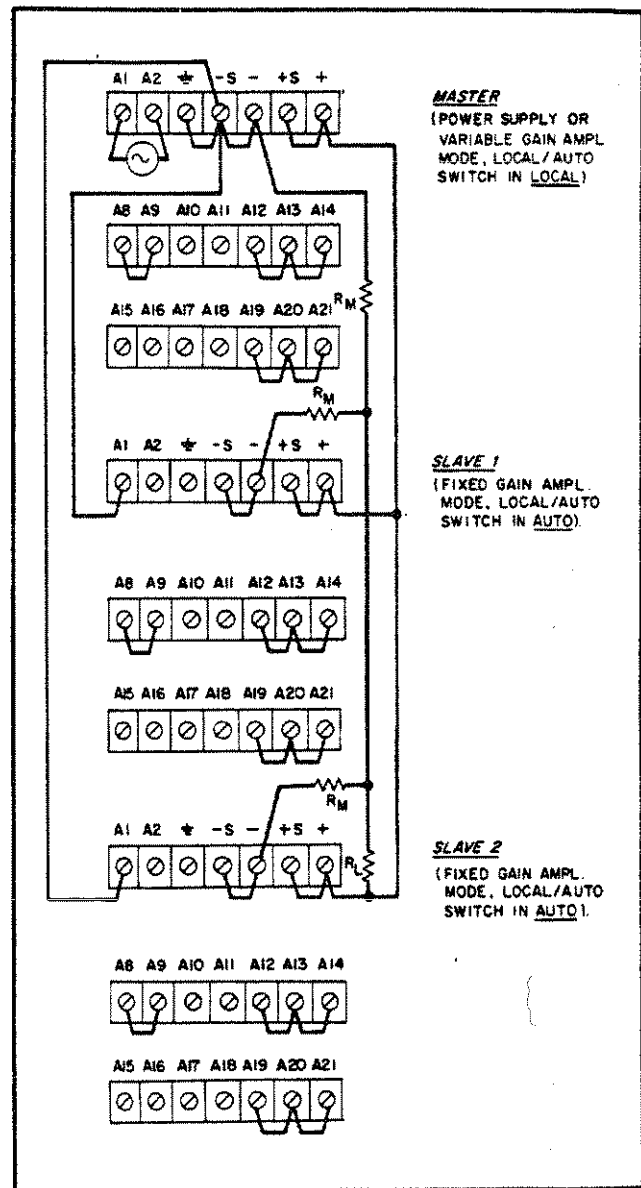

Figure 3-13. Auto-Parallel Connections, Three Units
**3-61 Auto-Parallel Operation.** Two or more BPS/A's can be connected in auto-parallel arrangement to obtain an output current greater than that available from a single supply. Figure 3-13 illustrates the auto-parallel connections for three supplies to allow increased output current in constant voltage operation. When this arrangement is used, current sharing under all load conditions is permitted under control (front panel CURRENT control or remote programming) of the master supply. Because the CURRENT controls (or remote programming) of each slave are operative, they should be set to a maximum to prevent the slave reverting to constant current operation; this could occur if the master output current setting exceeded the slave's. For equal current sharing, the leads from  $R_M$  to the load and to the (-) terminals should be approximately equal in length. To maintain instrument accuracy and stability,  $R_M$  should be a stable, low temperature coefficient resistor of sufficient rating to prevent any appreciable self-heating (typically  $1\Omega$ ,  $8W$ ,  $\pm 20 \text{ ppm}/^\circ\text{C}$ ,  $\pm 1\%$ ).